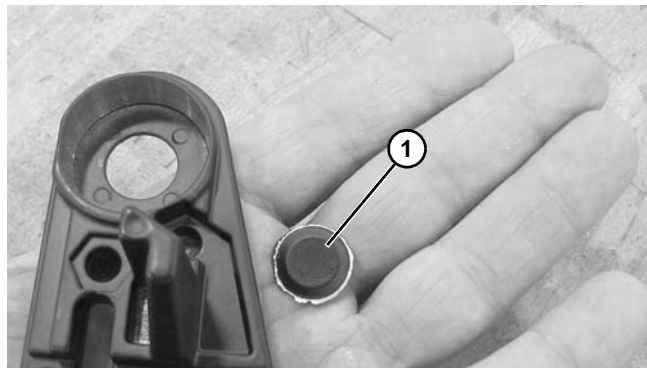

**Figure 139**
2. Set tail plate (**Figure 139, item 1**) flat side down over washer (**Figure 139, item 2**) or hole in workbench that has a minimum diameter of 5/8".